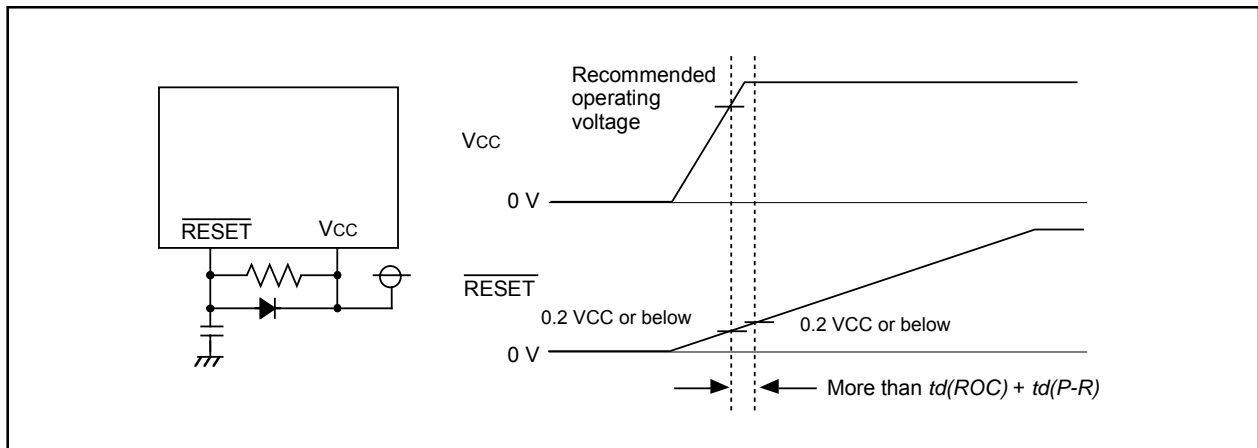
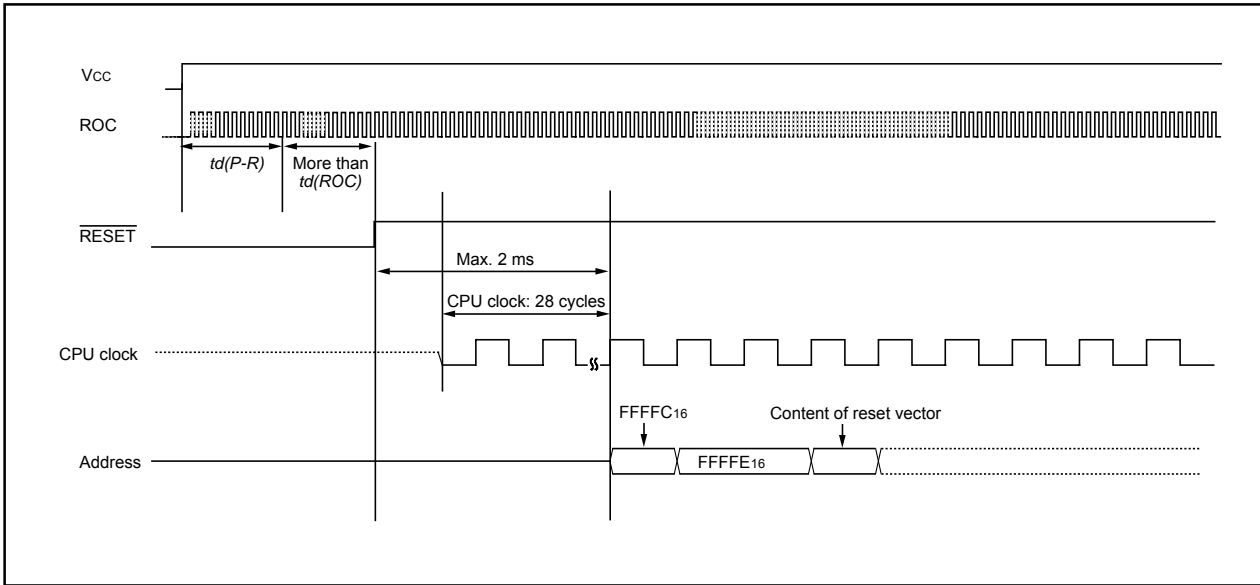

Figure 5.1 Example Reset Circuit
Figure 5.2 Reset Sequence
**Figure 5.1** shows an example of the reset circuit. **Figure 5.2** shows a reset sequence. **Table 5.1** shows status of the other pins while the  $\overline{\text{RESET}}$  pin is held “L”. **Figure 5.3** shows CPU register states after reset. Refer to **4. Special Function Register (SFR)** about SFR states after reset.